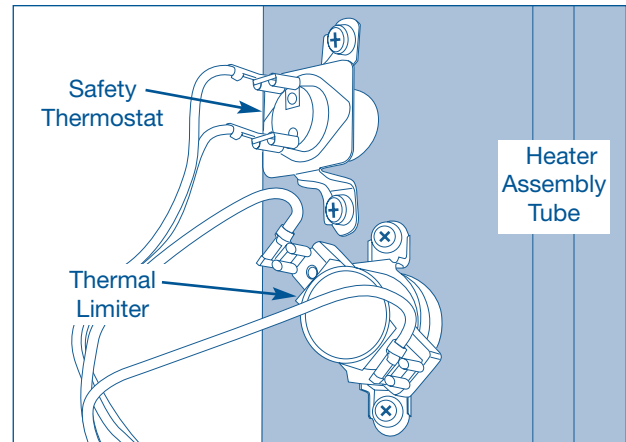

Figure 4-49.
3. Using a #2 square bit screwdriver, extract the screws securing the sensors to the combustion tube. (See Figure 4-49)